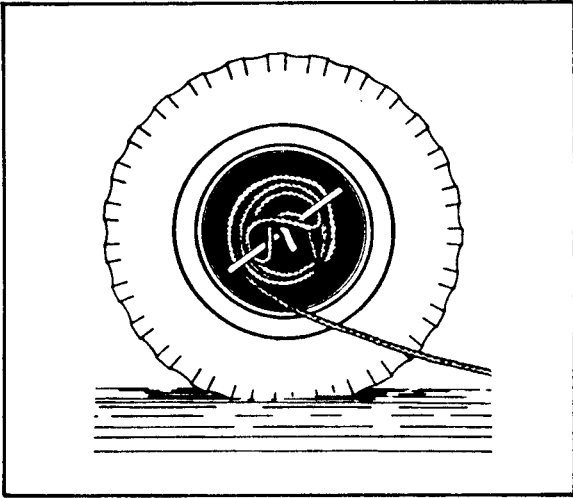

FIGURE 22-5. Single-Wheel Winch.
*Vehicle Without Winch (Single Wheels).* Place a bar through the hole in the end of the axle flange of each rear wheel. On each wheel, fasten one end of the rope to the bar and the other to an anchor. Move the vehicle in reverse gear to wind the rope in behind the bar (Figure 22-5). This procedure cannot be used on vehicles equipped with a Center Tire Inflation System (CTIS).